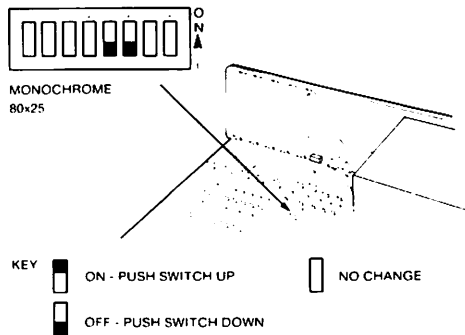

Figure 6A: SW1 in the IBM PC and PC XT
- a. **In the IBM PC and XT:** SW1 is a rectangular block of eight slide or rocker switches on the system board behind the left drive bank. Set switches 5 and 6 to the OFF position. Do not disturb any of the other switches. Please see figure 6A.